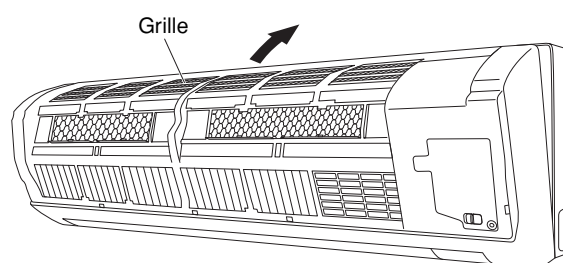
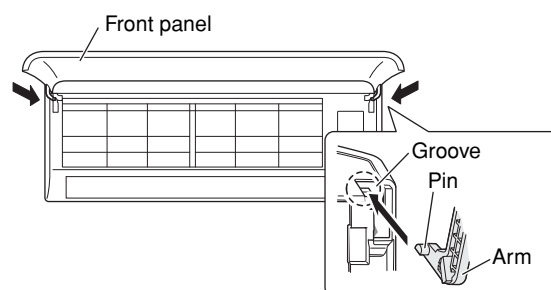

Fig. 18b-4
Fig. 18c-4
- (1) When installing the grille, place the bottom of the grille into the frame first. (Fig. 18b-4) Then insert the tabs on the top of the grille and on the front face into the frame.
- (2) Make sure that the grille and frame are firmly fitted together by engaging the tabs.
- (3) Press the grille firmly with your hand to ensure no gap exists between the frame and grille.
- (4) Tighten the 3 screws and close the screw covers.
- (5) Grasp the sections near the front panel arms on both sides, hold the front panel so that it is nearly horizontal, bring the arm shafts into contact with the top of the grooves on the right and left sides of the air conditioner, and then push firmly until the arm shafts click into place. (Fig. 18c-4)